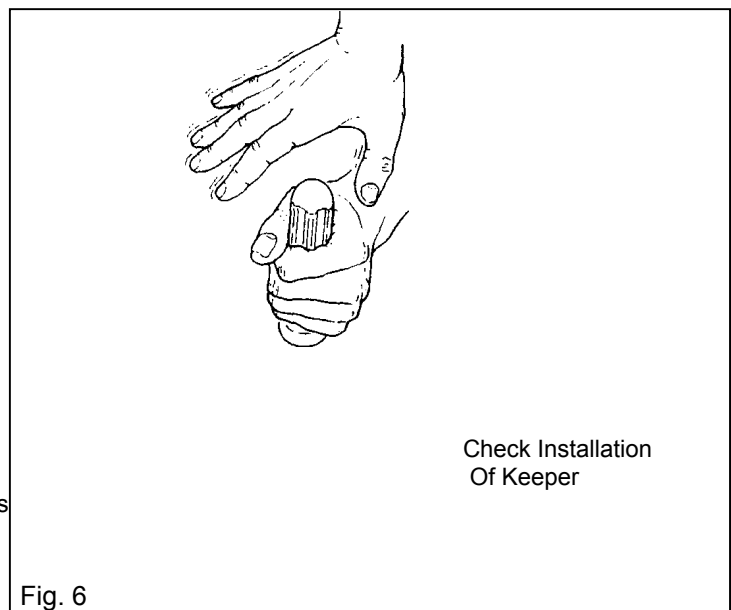

Fig. 6
11. Confirm that the keepers are in place by tapping each with a screwdriver. Refer to Fig. 6